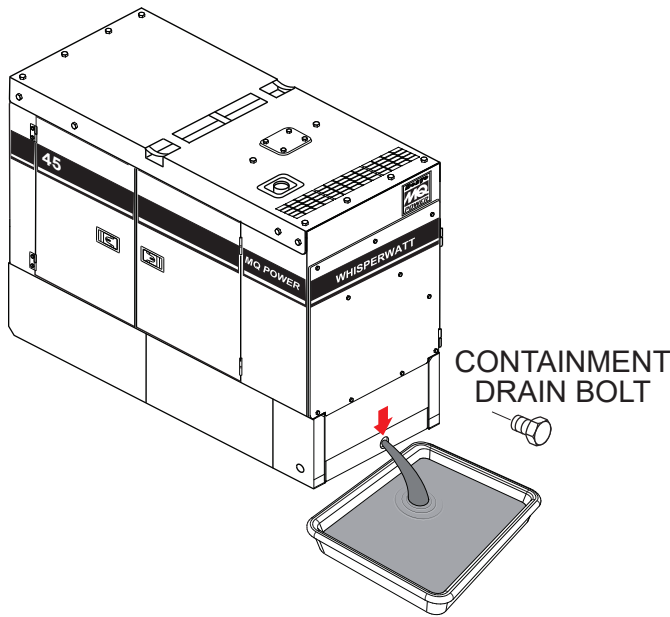

Figure 68. Draining The Containment Tank
2. If the tank becomes full with fluids, remove the **drain bolt** (Figure 68), then allow the fluids to drain into a suitable container.